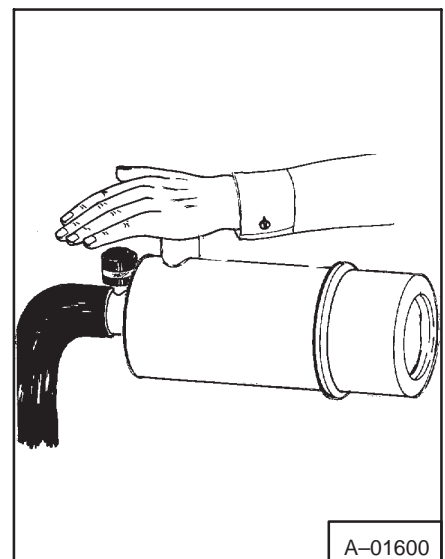

Fig. 1-11 Checking System
- g. Check system by removing dust cover and hold hand over inlet with engine running at idle to 1/4 throttle. Engine should stop (Fig. 1-11). Reset indicator and install dust cover.